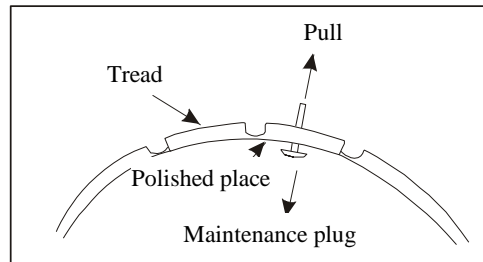

Figure 4-69 Installation of Maintenance Plug
- 4) Insert the plug into the puncture hole from tire inside using lead-in tool (as shown in Figure 4-69), and press head of plug as tightly as possible so as to fix the head of plug to tire inside.